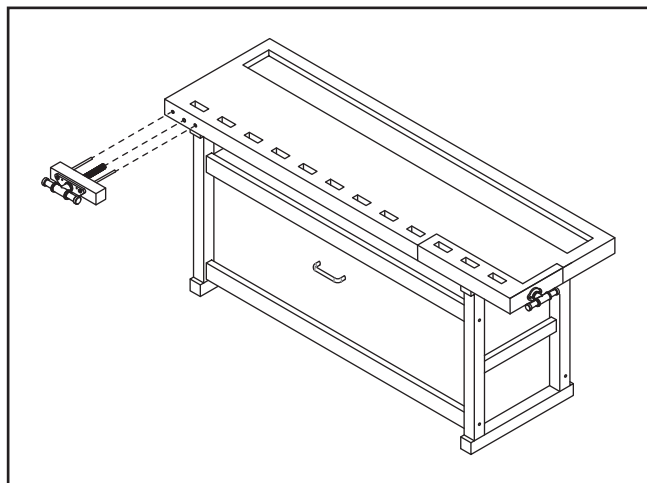

Figure 13. Installing vise components.
13. Insert front vise assembly through holes in front left side of workbench, as shown in **Figure 13**.